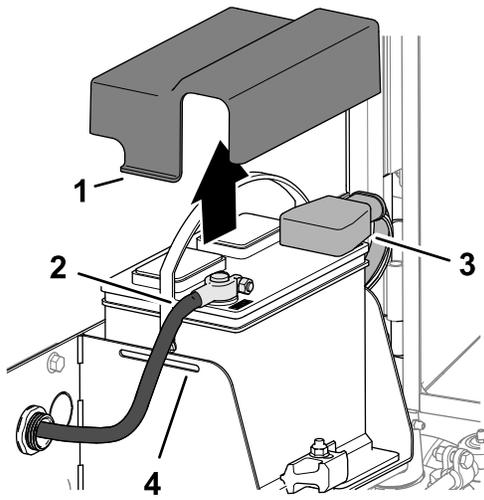

Figure 132
3. Press the sides of the battery cover, and remove the cover from the battery tray (Figure 132).